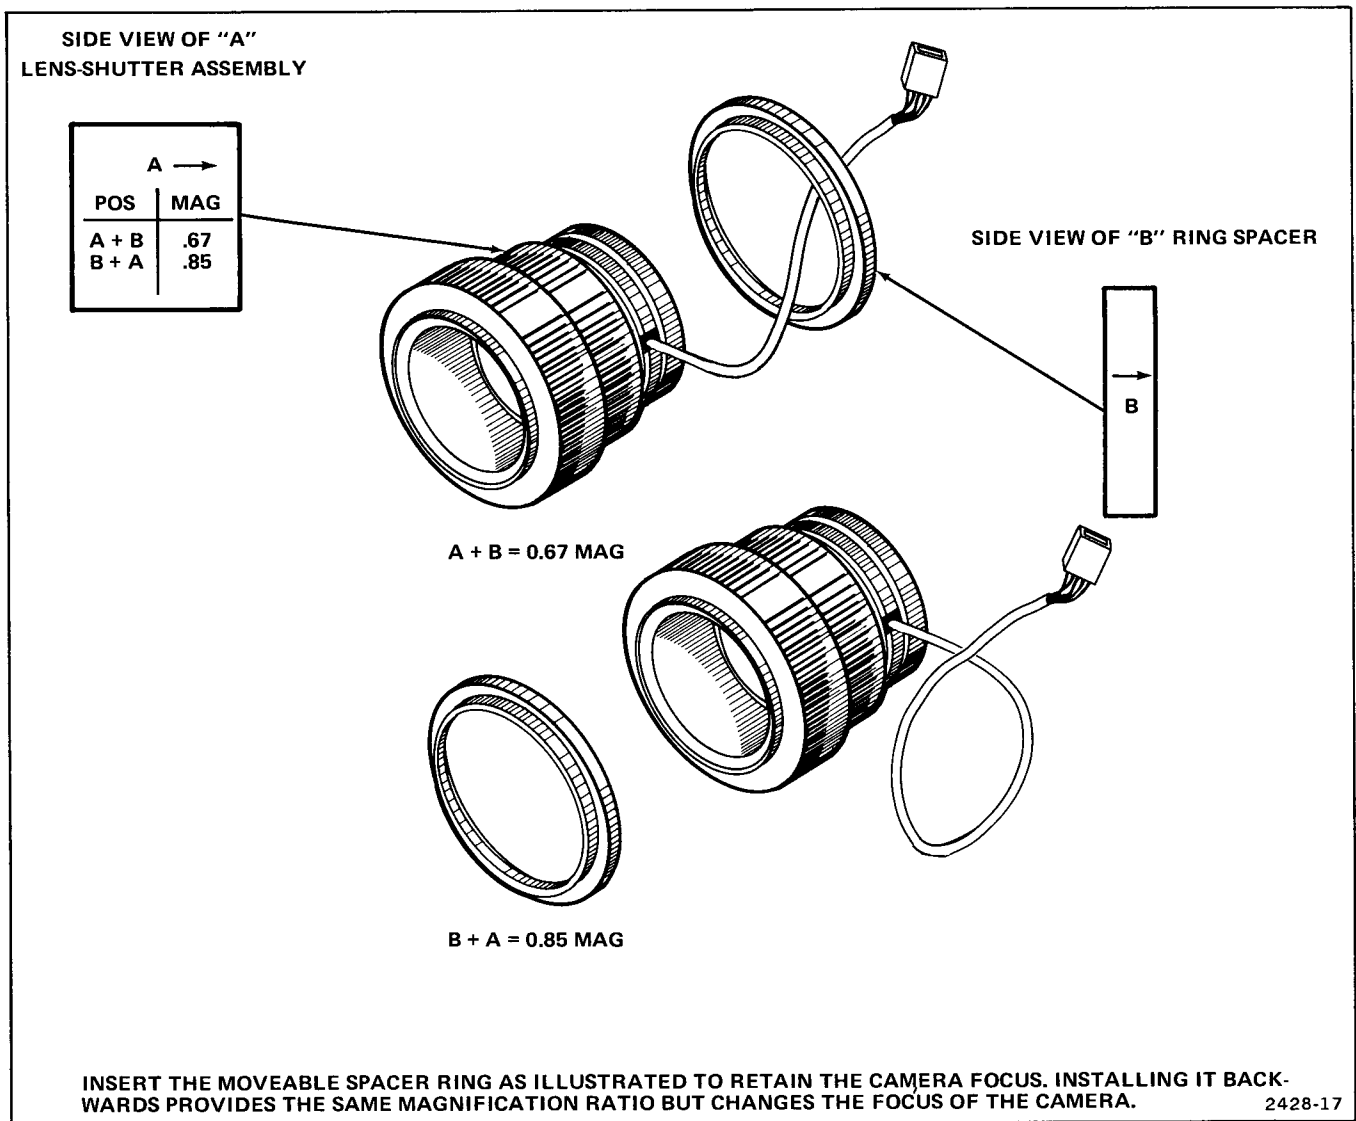

Figure 2-7. Changing the object-to-image ratio.
The object-to-image ratio is determined by the position of the movable "B" spacer ring in relation to the "A" lens assembly (Figure 2-7). Use the following procedures to change the magnification factor:
6. The lens assembly consists of a stationary lens and movable spacer ring. The positioning of the spacer ring determines the object-to-image ratio of the camera. When the "B" spacer ring is interfaced in back of the stationary lens (marked "A"), the ratio is 1:0.67 (A+B). When the "B" spacer ring is positioned in front of lens "A", the object-to-image ratio is 1:0.85 (B+A). (See Figure 2-7).